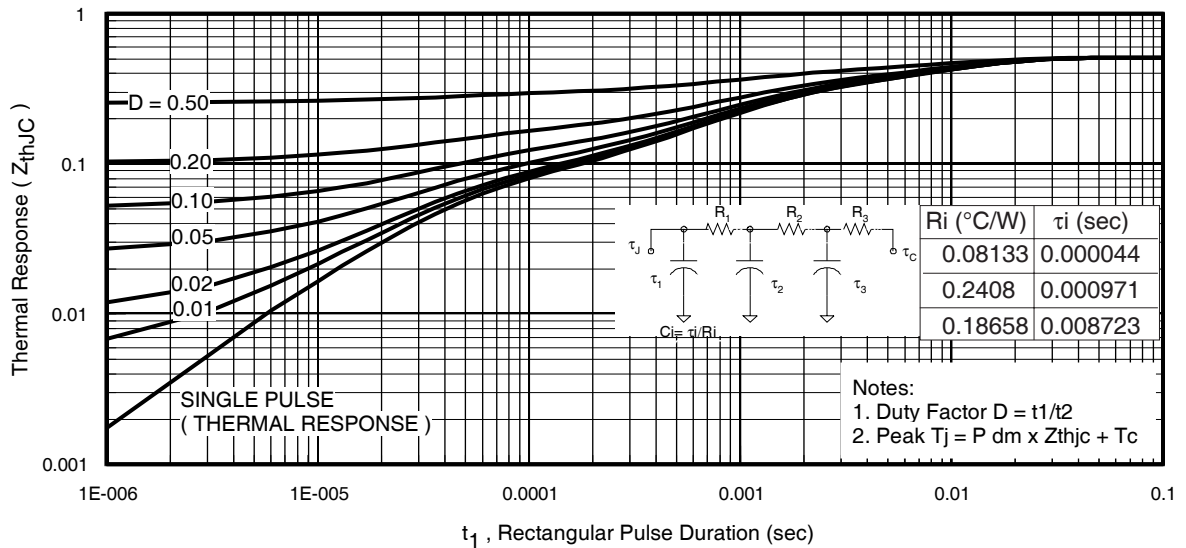

Fig 11. Maximum Effective Transient Thermal Impedance, Junction-to-Case
- ① Repetitive rating; pulse width limited by max. junction temperature. (See fig. 11).
- ② Limited by T_{Jmax}, starting T_J = 25°C, L = 0.10mH R_G = 25Ω, I_{AS} = 75A, V_{GS} = 10V. Part not recommended for use above this value.
- ③ Pulse width ≤ 1.0ms; duty cycle ≤ 2%.
- ④ C_{oss eff.} is a fixed capacitance that gives the same charging time as C_{oss} while V_{DS} is rising from 0 to 80% V_{DSS}.
$Z_{thJC}(D, t_{av})$ = Transient thermal resistance, see figure 11)